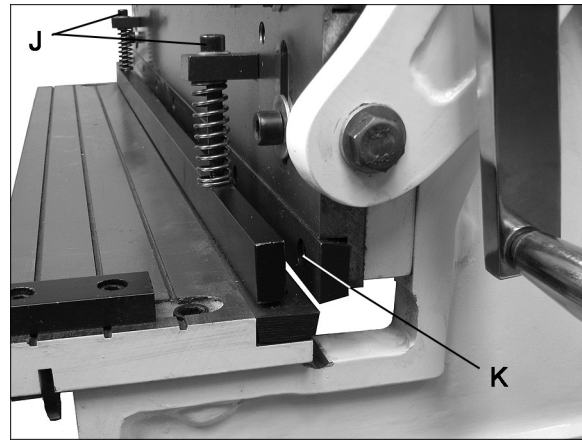

Figure 11
1. Remove the *hold-down* by loosening the socket head cap screws (J, Figure 11), using a 6mm hex key.
3. Remove the seven *socket head cap screws* (K, Figure 11) and carefully remove a blade.
5. Re-install the hold-down. When the blade is in highest position, the gap between the hold-down and the table should be within 1/4". Adjust to this position by turning the two socket head cap screws (J, Figure 11) as needed. When the blade starts its downward travel, the hold-down should immediately hold the workpiece in place.